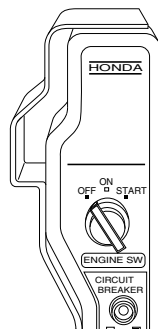

Figure 24 - Engine Switch In OFF Position
3. Move engine lever or turn engine switch to the OFF position (see Figure 24).